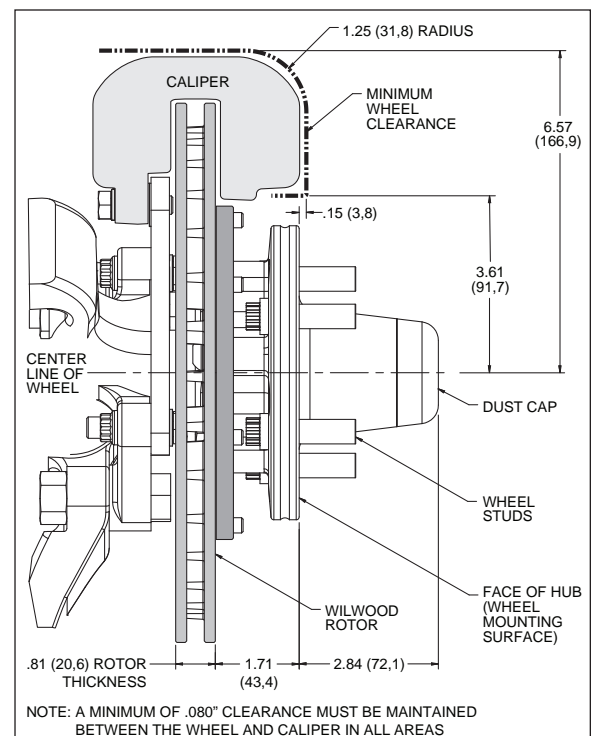

Figure 2. Wheel Clearance Diagram
- Review the Wheel Clearance Diagram (Figure 2, page 3) to verify that there is adequate clearance with the wheels you will be using with the installation.
- Verify wheel clearance utilizing Figure 2.
- **WARNING:** The wheel contact surfaces must seat completely on the face of the hub. If any contact surfaces overhang the outside diameter of the hub face, a 6.60" diameter x .20" thick steel spacer (item 26, Wilwood P/N 300-11961) MUST be used between the wheel and the hub.